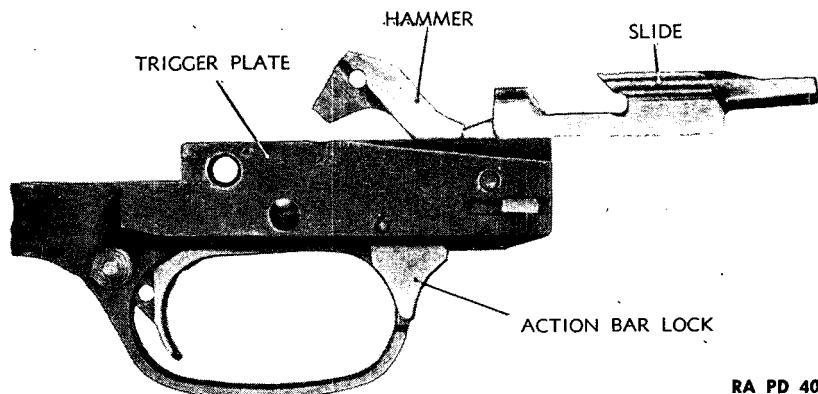

**Figure 90—Breechblock and Slide—Locked Position—
a. As already explained, the functioning of the operating mechanism is accomplished by the reciprocation of the fore end. The rear end of the action bar is engaged with the slide by means of a lug on the bar mating with a notch in the slide. As the action bar is moved to the rear, it pushes the slide with it. The slide moves for a short distance independent of the breechblock, camming the rear end of the breechblock down and thus allowing the hooked cam lug on the lower rear end of the breechblock to drop down into a similarly shaped aperture in the top of the slide (fig. 89). This action unlocks the breechblock from the top of the receiver. From this point on, the slide pulls the breechblock with it to the rear. The breechblock extracts the fired shell from the chamber by means of the extractors in its forward end and the shell is knocked out of the receiver by the ejector positioned in the left side of the receiver wall. As the slide moves forward again, it pulls the breechblock with it and at the end of the forward movement cams up the rear end of the breechblock in front of the locking shoulder in the top of the receiver to lock the breechblock to the receiver (fig. 90).